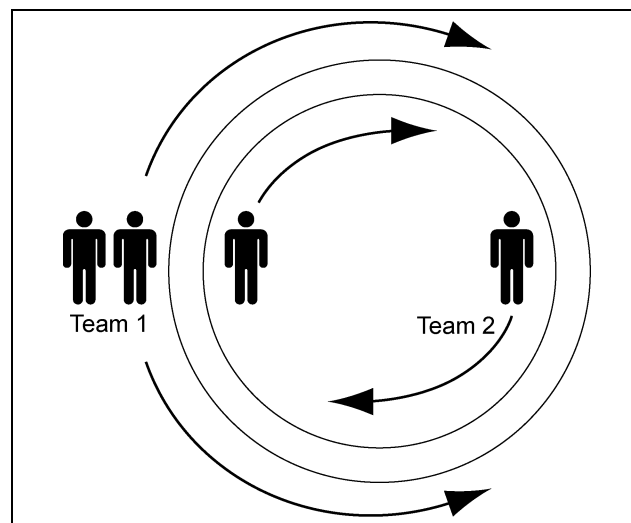

Figure 9L
Figure 9L shows a team of two (2) working to connect the modules on the inside.